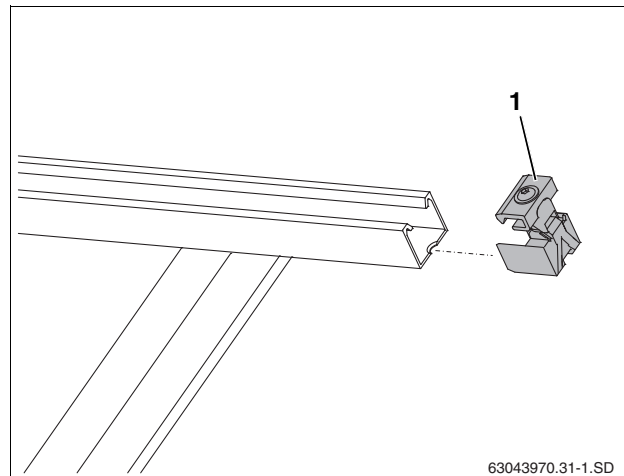

Fig. 45 Fitting the single-sided collector clamp
- Push single-sided collector clamps (Fig. 45, [1]) into the profile rails at the right-hand end of the collector array until they click into place in the first slotted hole on the profile rails.